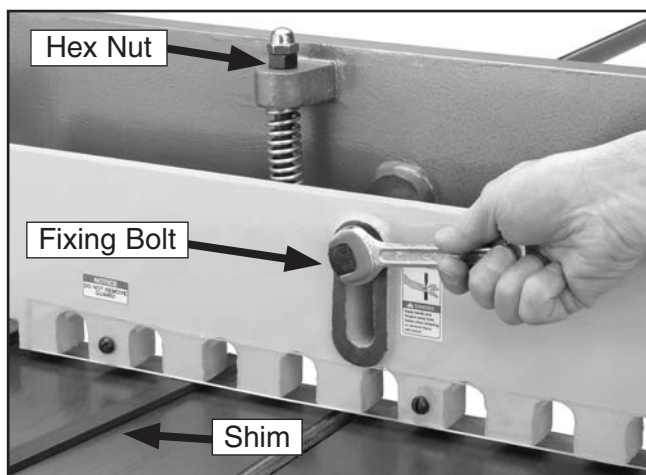

Figure 17. Tightening hold-down.
1. Tighten the hex nuts on the springs to raise the hold-down off the table (**Figure 17**).